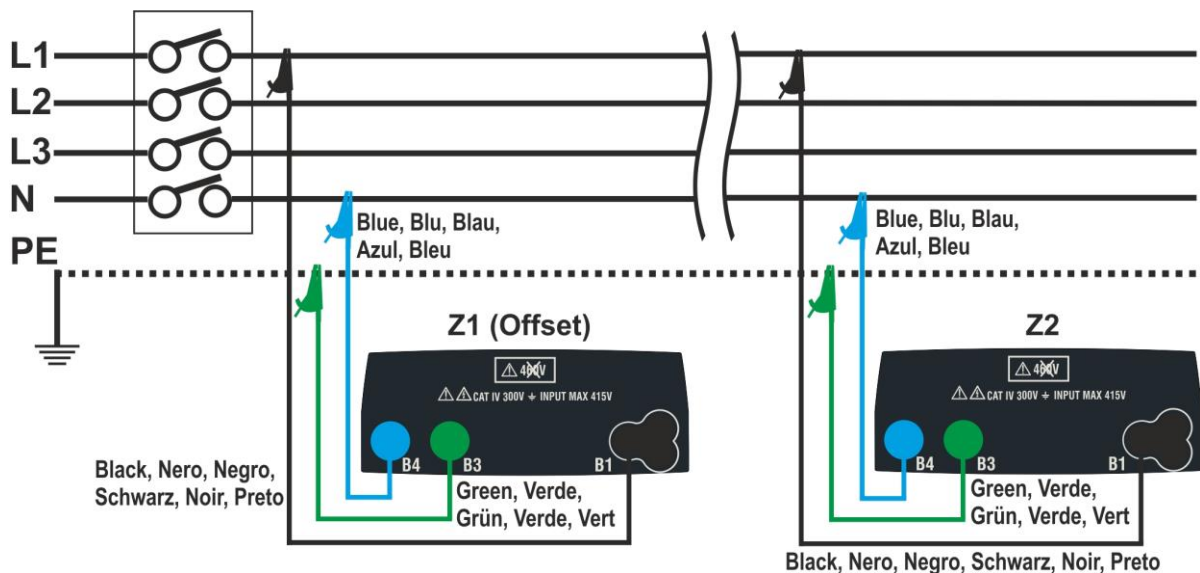
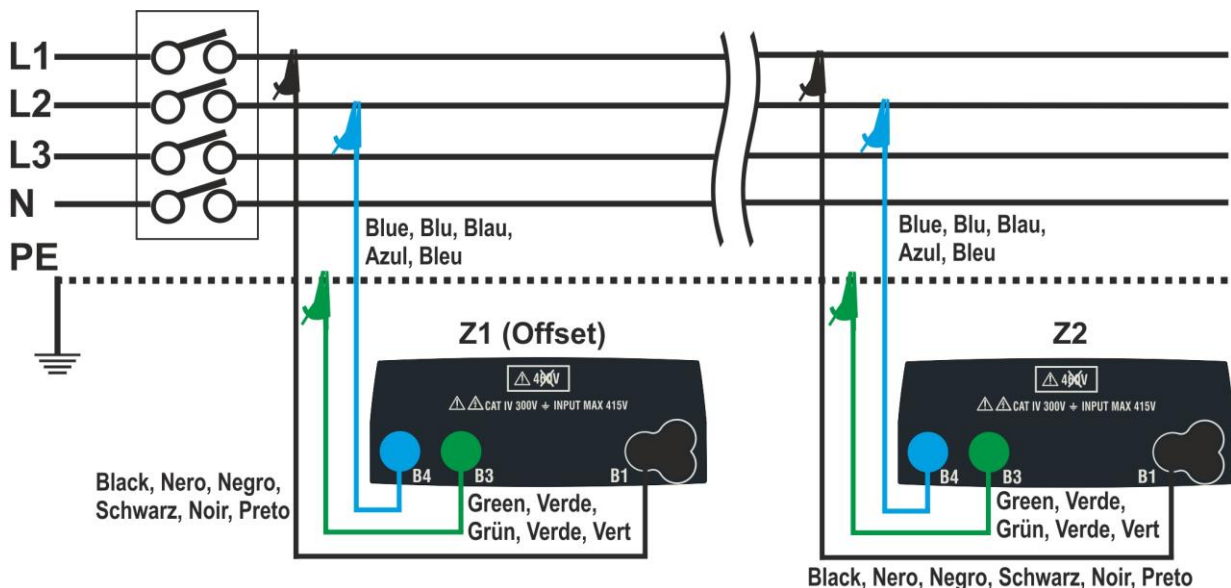

Fig. 34: Connection of the instrument for L-N mode voltage drop measurement
Fig. 35: Connection of the instrument for L-L mode voltage drop measurement
- Connect the instrument to the initial point of the mains being tested (typically downstream of a protection device) according to Fig. 34 or Fig. 35 in order to carry out the first **Z1 (Offset)** impedance measurement. In this case, the instrument will measure the impedance upstream of the initial point of the mains being tested, taking it as starting reference. The following screen (referred to L-L measurement) appears on the display.
7. Connect the instrument to the final point of the mains being tested according to Fig. 34 or Fig. 35 in order to measure the **Z2** impedance at the end of the line. Note the previously measured Z1 (Offset) value displayed.